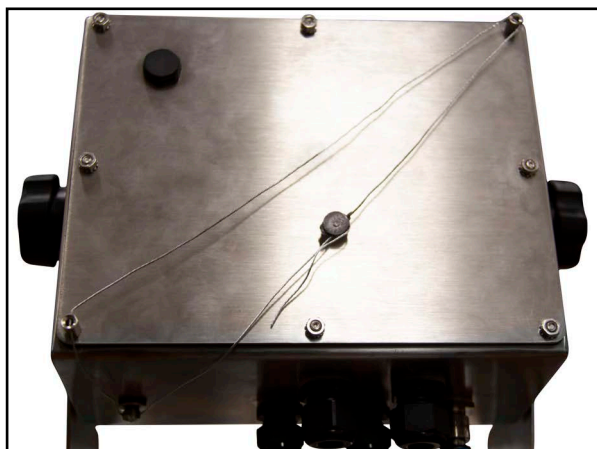

Figure 2-13. Sealing the Indicator
1. Place the sealing wire through the fillister head screws on the backplate, then through the fillister head screw at the bottom of the indicator, as shown in Figure 2-13.